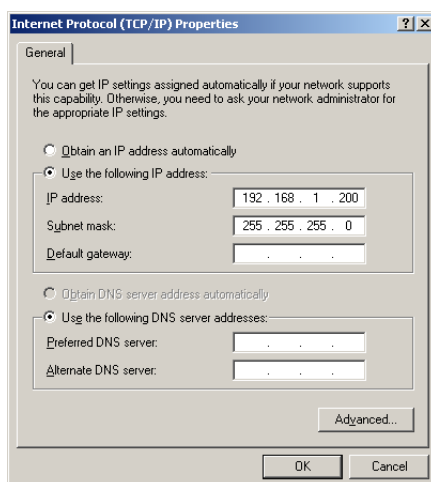

Figure 7-7 Internet Protocol Properties Window
4. Highlight the “Internet Protocol (TCP/IP)” item in the list, and click on the “Properties” button. The Internet Protocol Properties Window will open (Figure 7-7).